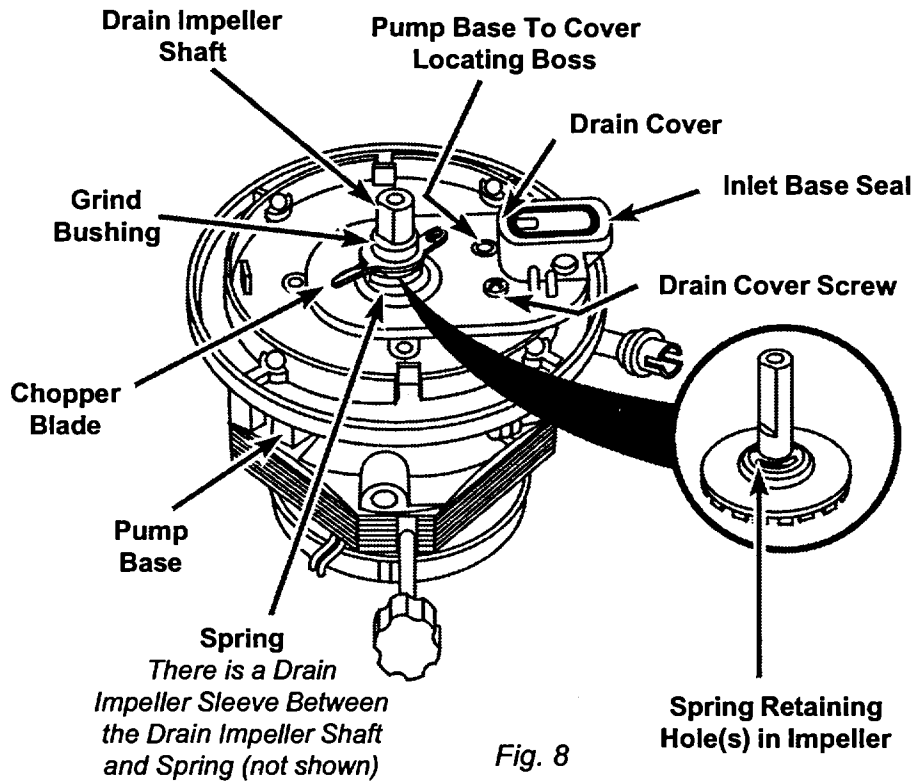

Fig. 8
7. A damaged bushing, chopper blade and/or spring can be lifted off the drain impeller shaft. Remove and discard the inlet base seal. (Fig. 8)
8. If the spring retaining holes in the drain impeller are damaged, the drain impeller must be replaced. (Fig. 8)
- a. Remove the Torx screw securing the drain cover to the pump base and remove the drain cover. (Fig. 8)
- b. Lift the drain impeller off the motor shaft. (Fig. 8)